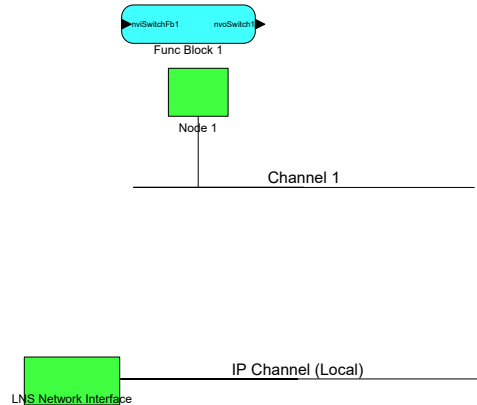

Figure 103: Move the LNS Network Interface to the newly created IP Channel.
7. If the L-IP is used as a CEA-709 configured router one should add the L-IP in the LonMaker drawing. Create a new Channel with channel type IP-10L in an Intranet or IP-10W in an Internet environment. Move the LNS Network Interface to this newly created IP channel as shown in Figure 103 by selecting the LNS Network Interface and choosing “Change Channel” from the context menu.